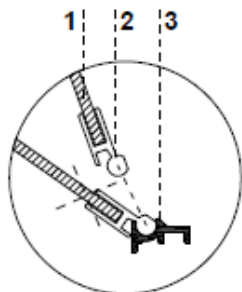

Figure 9 Front glass disassembly
- **When cleaning inside the device, do not leave the front glass lifted in the aluminum profile. This may cause the damage to the glass and not covered by warranty. Please remove the glass during cleaning. (Figure 9)**